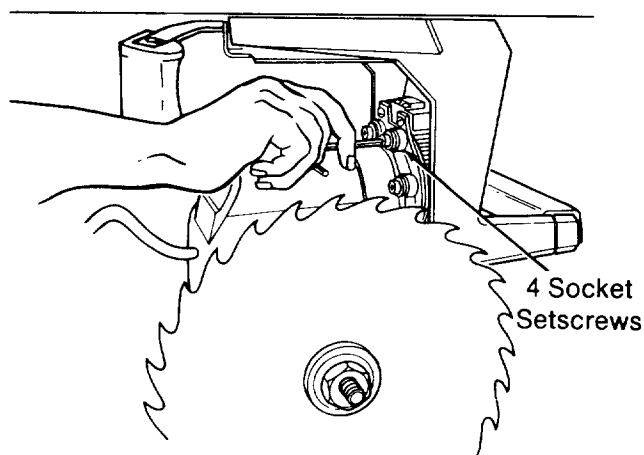

Fig. 109
9. Loosen the four screws behind the *yoke* using a 3/16 inch hex-L wrench. (Figure 109)